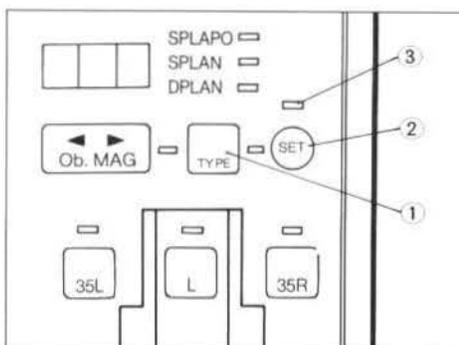

Fig. 40
- ④ Press the objective type selector (TYPE) button ① until the type of objective in use is illuminated. (Fig. 40)
- ⑤ Press the SET button ② to put the data in the memory. While the data is being input, the yellow LED ③ blinks. When the data input is complete, the LED goes off. (Fig. 40)